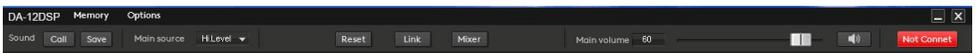

Figure 3.4.7
**Step 4:** After data transfer is completed, the machine load preset scene is complete, but you can see the upper left corner of the software will appear as the currently running preset scene the name of (Figure 3.4.7 "33445566 "but once in the console interface parameters changed, it will become the" Custom "in the name, because this time the machine is running and the data has been loaded set of data that is different).